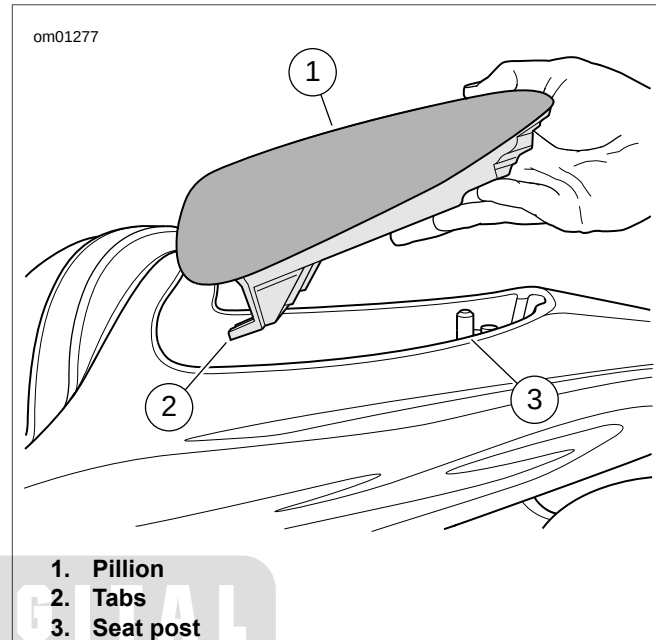

Figure 2-229. Passenger Pillion: XR 1200X
1. See Figure 2-229. Lift the rear of pillion to disengage grommet from the seat post.
1. See Figure 2-229. Insert pillion into trunk, aligning tabs on pillion with the slots in the trunk.